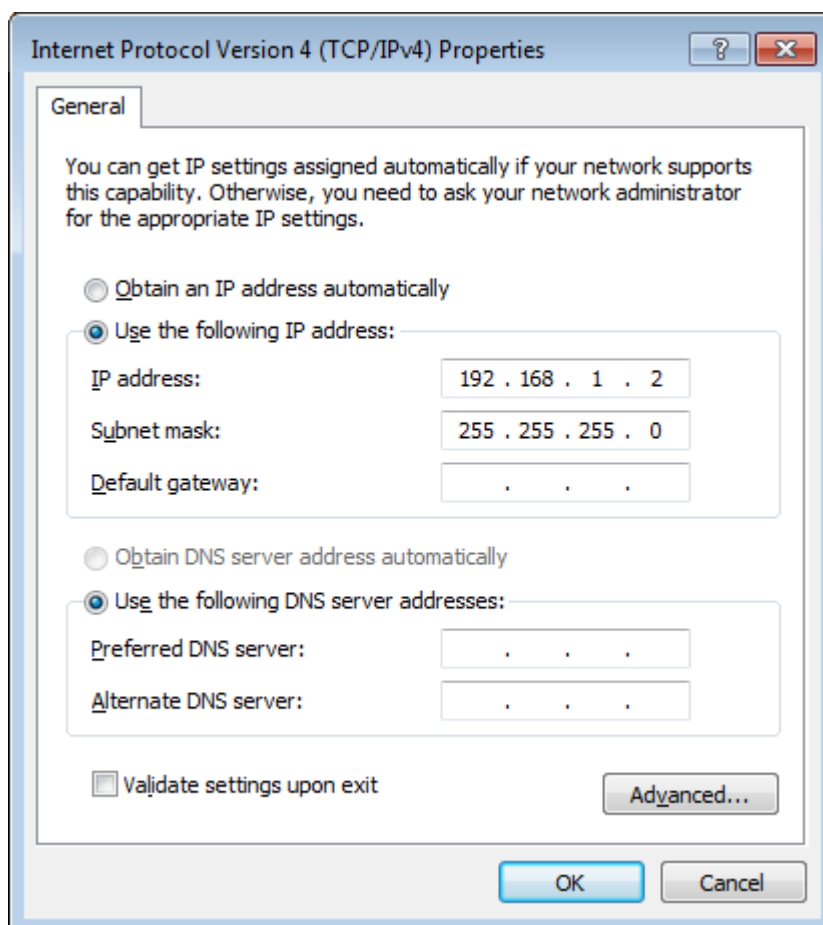

Figure 2.17: Static IP configuration of PC
1. Use one of the network cards and set it to static IP in TCP/IPv4 using the IP address **192.168.1.n**, where $n=[2..9]$ and the mask **255.255.255.0**, see Figure 2.17 (go to **Control Panel** → **Internet Options** → **Network and Internet** → **Network and Sharing Center** → **Local Area Connection** → **Properties**).